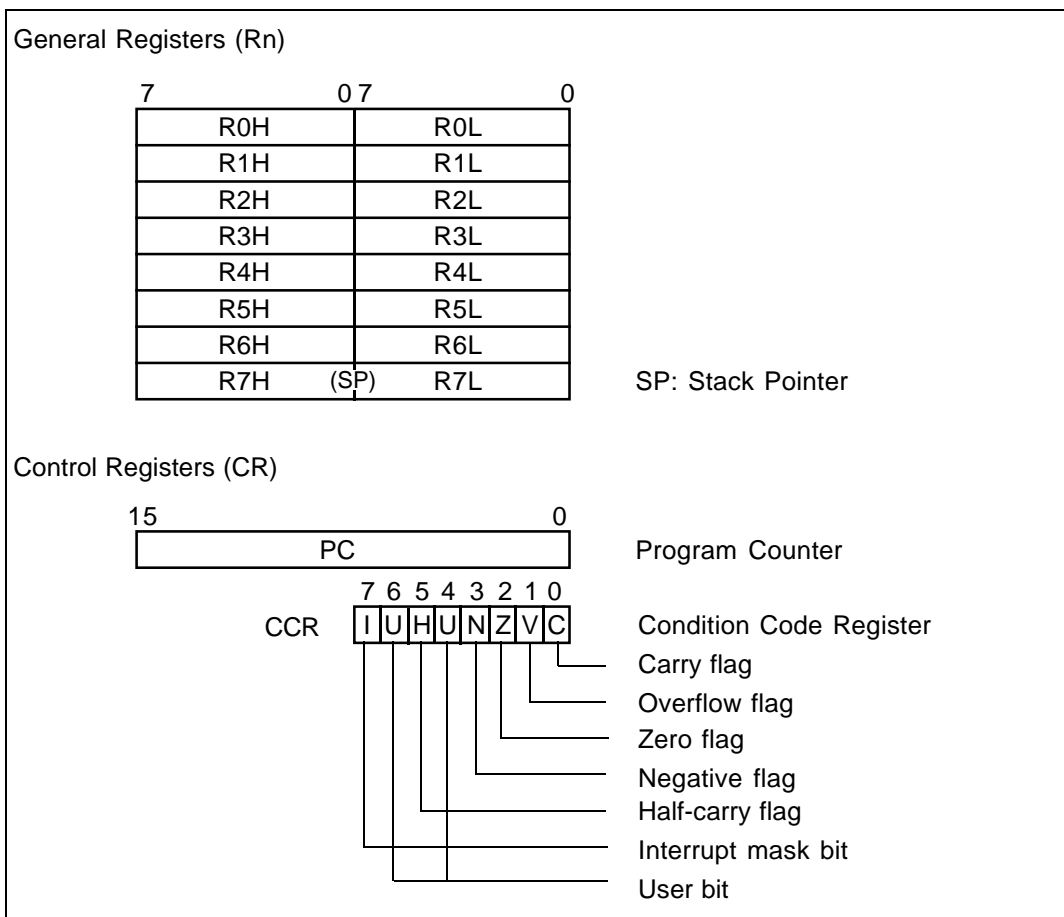

Figure 1-3 CPU Registers
Figure 1-3 shows the register configuration of the H8/300L CPU. There are 16 8-bit general registers (R0H, R0L, ..., R7H, R7L), which can also be accessed as eight 16-bit registers (R0 to R7). There are two control registers: the 16-bit program counter (PC) and the 8-bit condition code register (CCR).